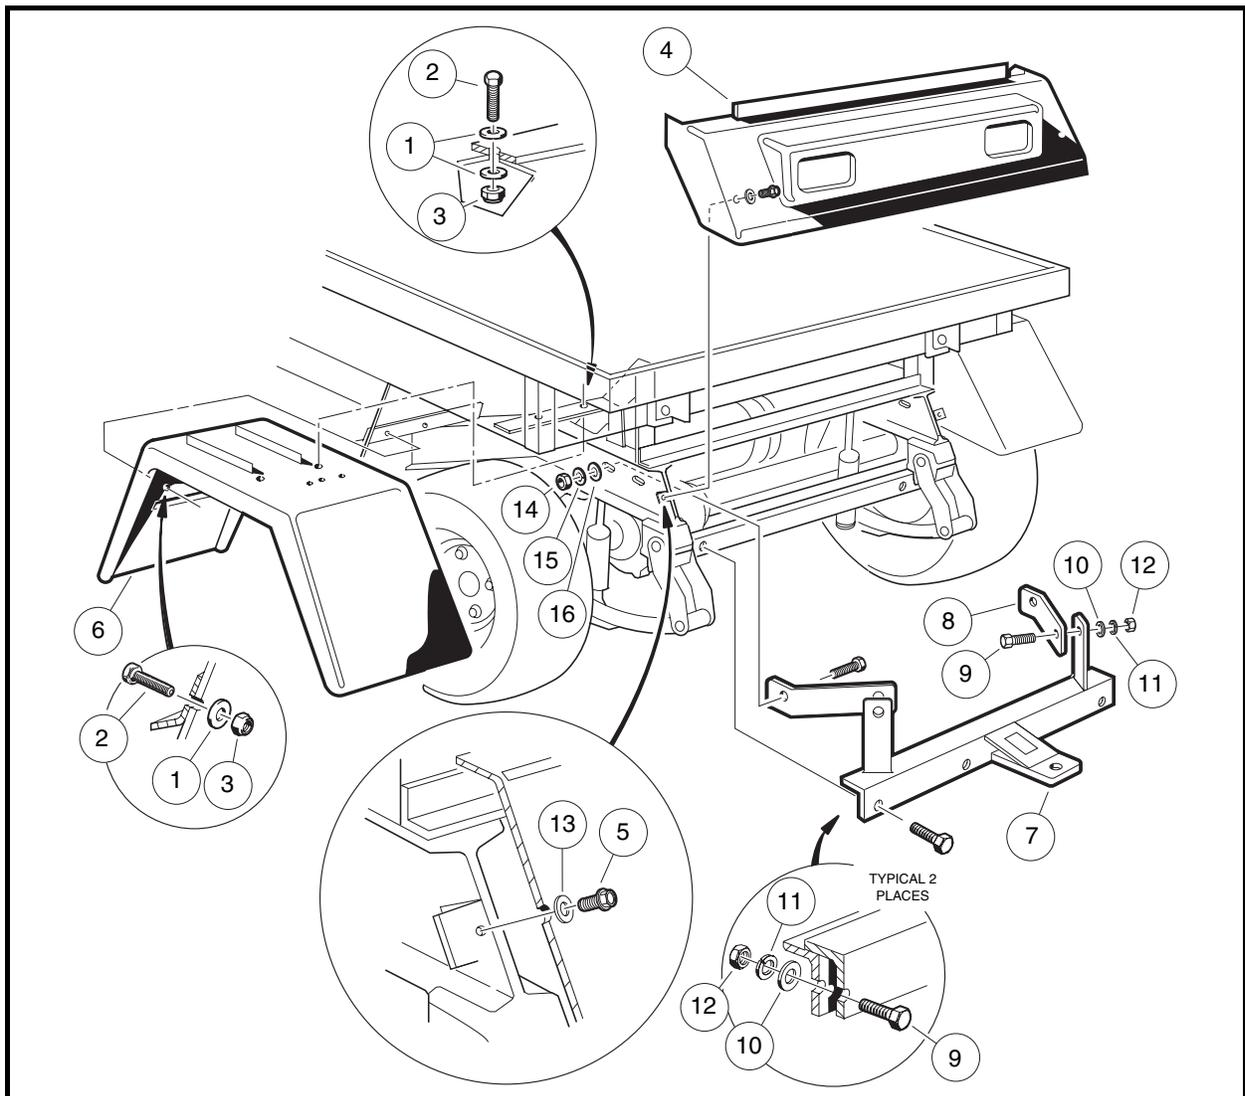
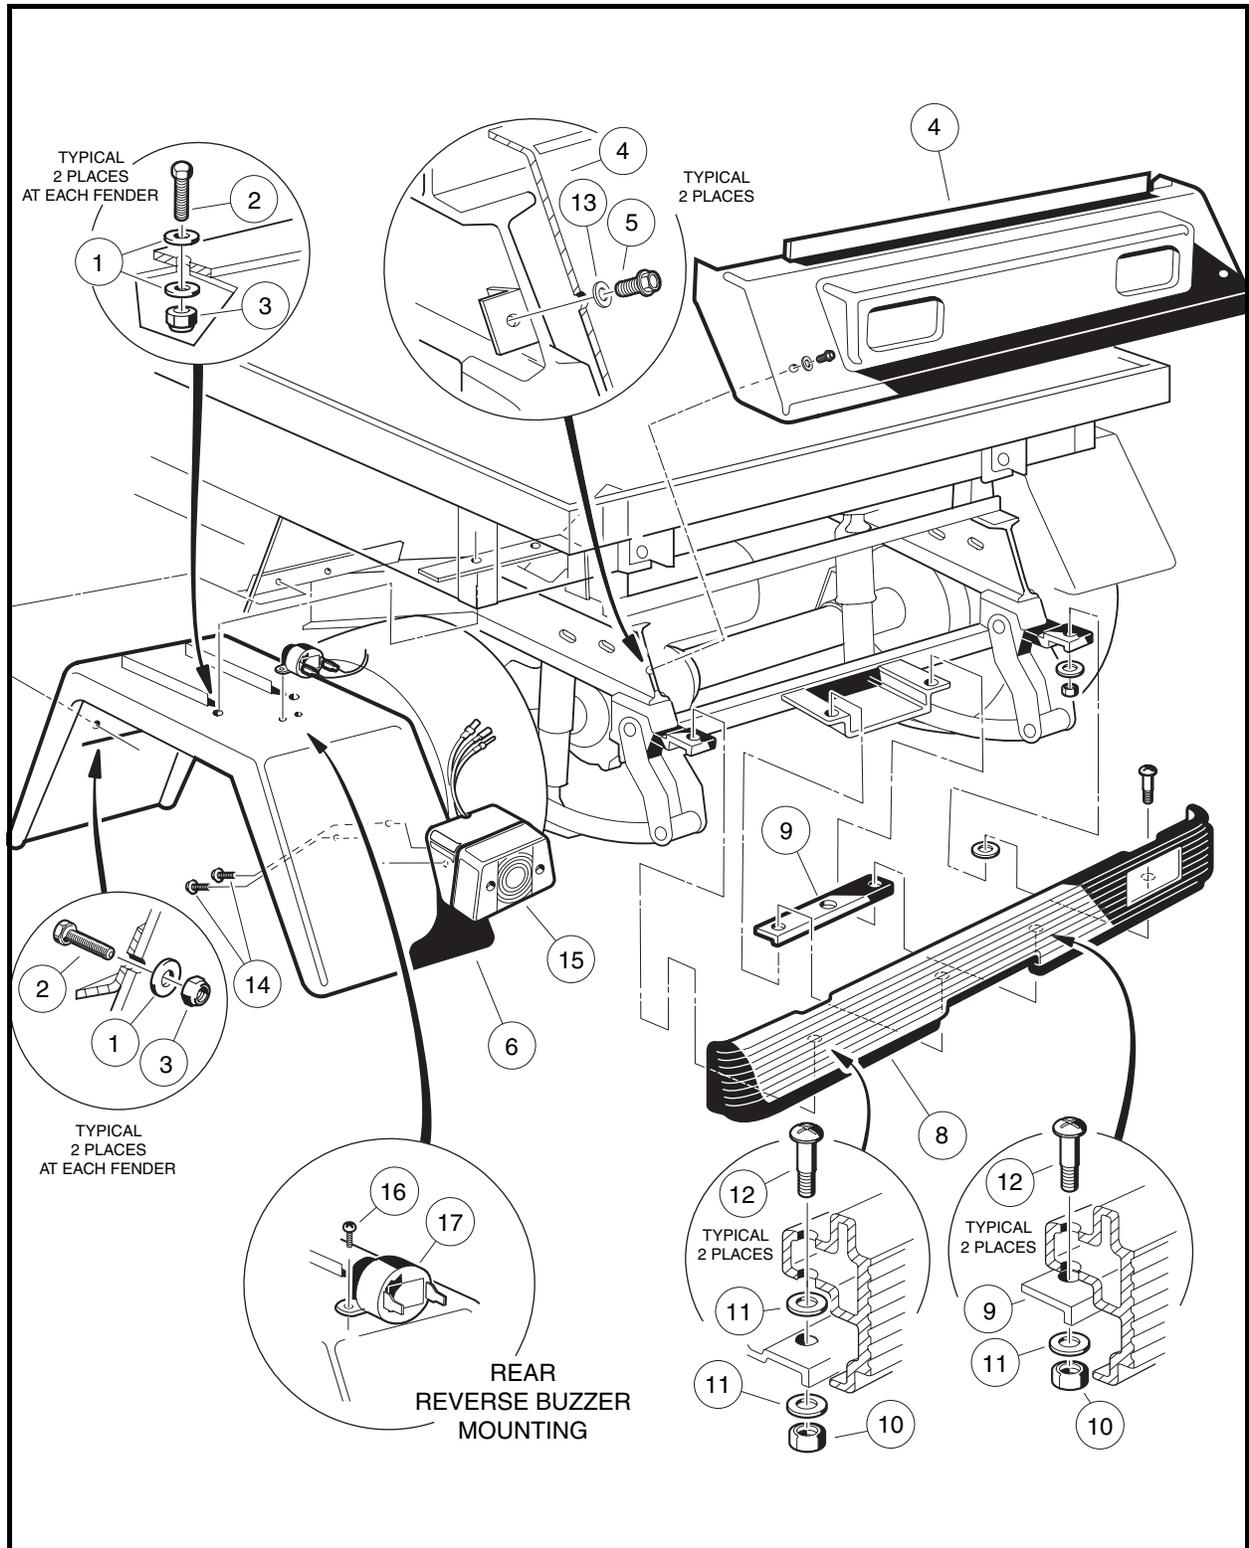

Figure 4-5 Rear Fender, Trailer Hitch, and Tailskirt – Turf 1, 2, Carryall 1, 2, and 2 Plus
Figure 4-6 Rear Fender and Tailskirt – Turf 6 and Carryall 6
- 1.1. Remove the two screws (14) that secure taillight (15) to the rear fender (**Figure 4-6, Page 4-12**).
2. Remove two nylon lock nuts (3), flat washers (1), and 1/4 x 1 bolts (2) from front of fender (6) (**Figure 4-5, Page 4-11 or Figure 4-6, Page 4-12**).
3. Remove two nylon lock nuts (3), flat washers (1), and 1/4 x 1 bolts (2) and flat washers (1) from the top of fender (6) (**Figure 4-5, Page 4-11 or Figure 4-6, Page 4-12**).
- 4.1. Remove pan-head screws (16) connecting reverse buzzer (17) to rear fender (6) and disconnect the two wires from the reverse buzzer (**Figure 4-6, Page 4-12**).
5. Remove fender (6) from vehicle (**Figure 4-5, Page 4-11 or Figure 4-6, Page 4-12**).
2. Where the hitch (7) is mounted to frame, remove two nuts (12), lock washers (11), flat washers (10), and bolts (9) (**Figure 4-5, Page 4-11**).
3. Where the hitch (7) is mounted to hitch brace (8), remove the nut (12), lock washer (11), flat washer (10), and bolt (9).
4. Remove hitch (7) from vehicle.
1. Install trailer hitch (7) in the reverse order of removal. (**Figure 4-5, Page 4-11**). Tighten hardware to 15 ft-lb (20.3 N·m).
1. Remove two thread-forming screws (5) and flat washers (13) from tailskirt (4) and lift tailskirt from vehicle frame (**Figure 4-5, Page 4-11 or Figure 4-6, Page 4-12**).
1. Insert upper edge of tailskirt (4) under, and in front of, back edge of rear body (**Figure 4-5, Page 4-11 or Figure 4-6, Page 4-12**).
2. Align holes in tailskirt (4) with holes in vehicle frame. Position tailskirt flush against frame.
3. Install two thread-forming screws (5) and flat washers (13) in tailskirt and tighten to 80 in-lb (9.0 N·m).
1. Remove four lock nuts (10), six flat washers (11), four phillips bolts (12), and mounting plate (9) from rear bumper (8) (**Figure 4-6, Page 4-12**).
1. Install the rear bumper in the reverse order of removal. Tighten nuts to 65 in-lb (7.3 N·m) (**Figure 4-6, Page 4-12**).